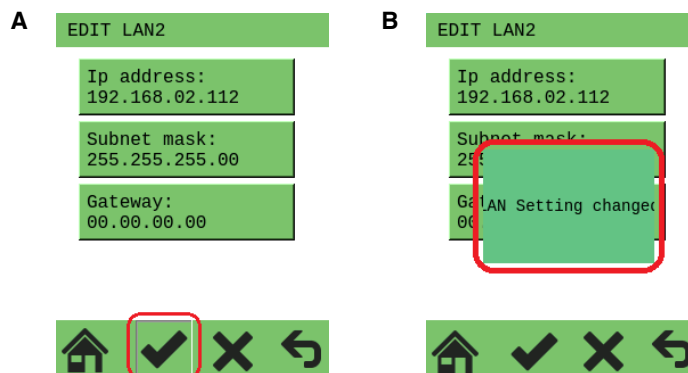

Figure 7-6 “CONFIG DETAILS, ... EDIT LAN2” menu: LAN2 IP settings changed
The activated symbol appears as a pressed button when it is tapped. This change in appearance is a visual indicator that tapping has been recognized by the system (A in Figure 7-6). An additional dialog on the display shows that the change has been accepted (B).